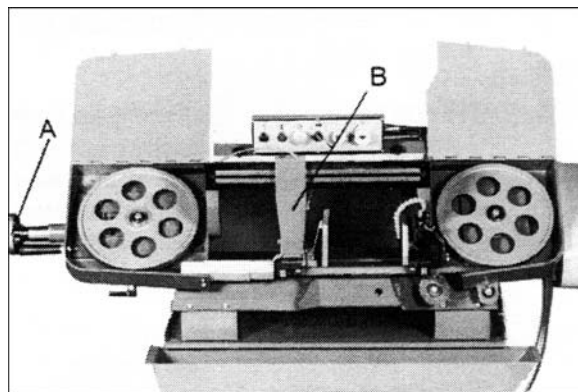

Figure 7
4. Release blade tension by turning blade tensioning handwheel (A, Figure 7) counter-clockwise until blade is free.